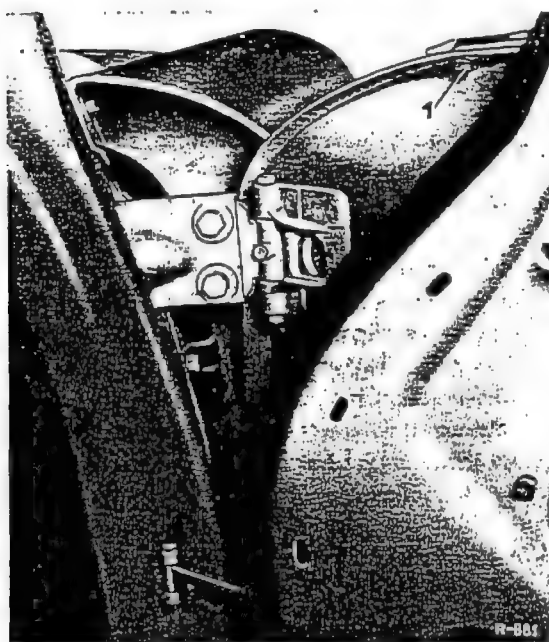

Fig. 72-9/1
1. Unscrew the nut (1) of the fixing screw at the hinge side and remove together with washer and lock washer (Fig. 72-9/1).